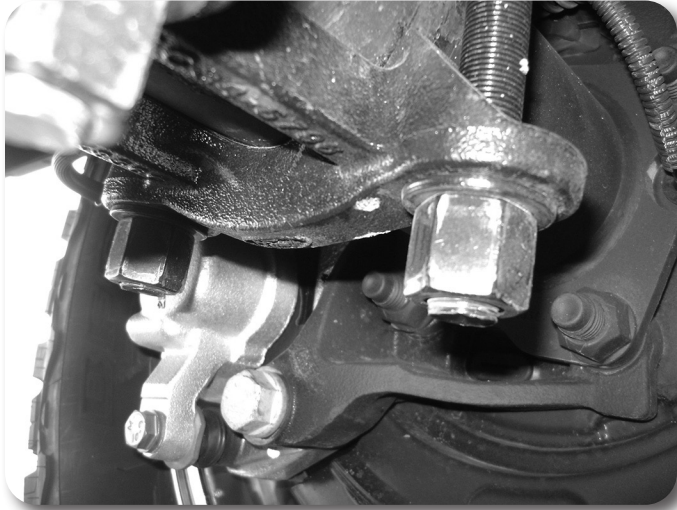

Figure 2
8. Raise the axle to engage the block spring alignment pins. Fasten the entire assembly with the provided u-bolts, washers, and nuts. Snug but do not torque the U-bolts at this time. Figure 2